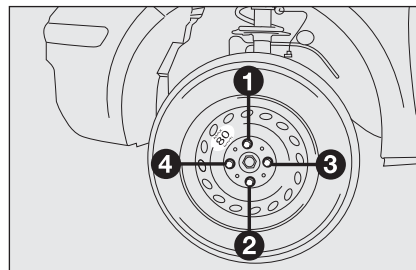

fig. 6
- ☐ use the wrench provided to fasten the bolts completely in a criss-cross fashion as per the order illustrated in **fig. 6**;